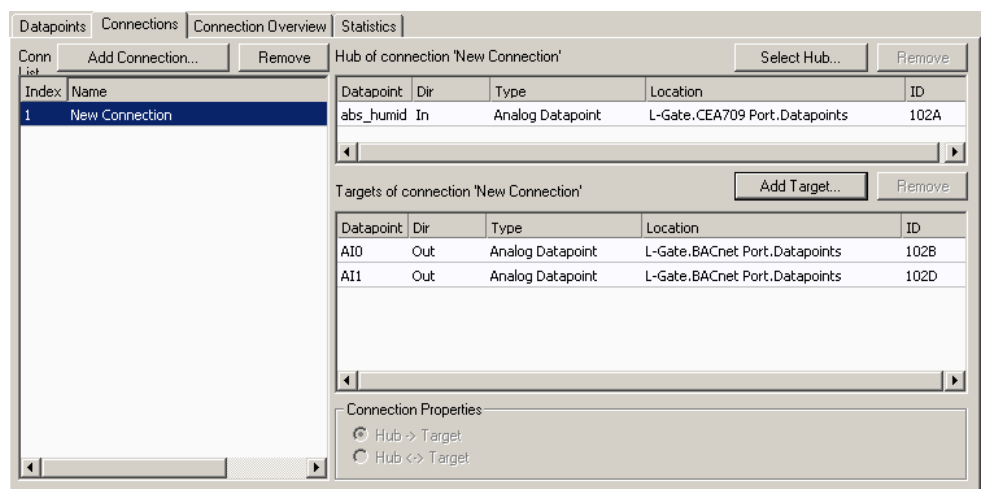

Figure 92: Connection dialog with hub and target points.
- Now the connection display contains a hub and two target data point as shown in Figure 92.